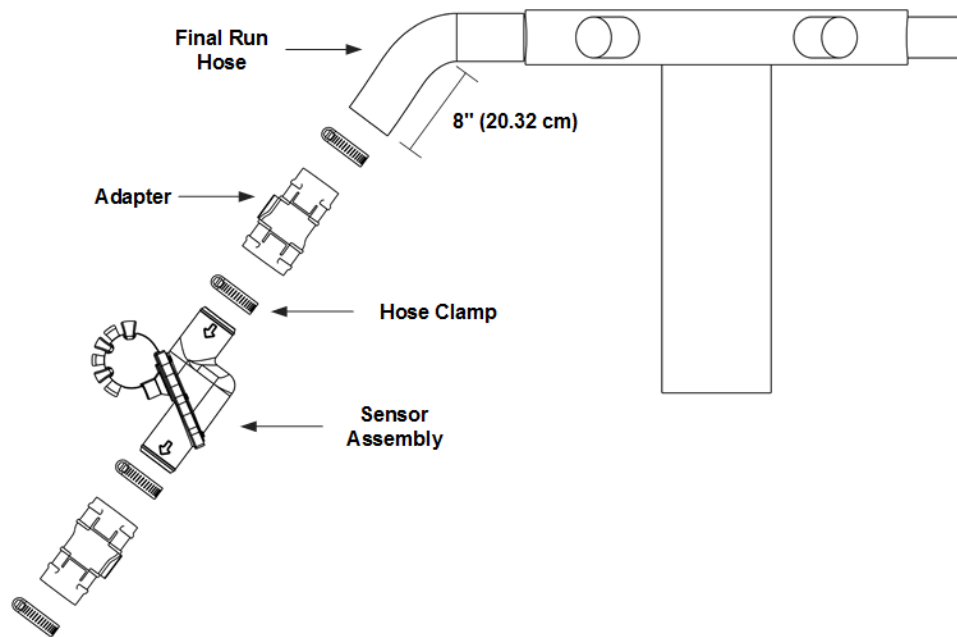

Figure 12: Installing 1.25-inch flow sensors on a manifold
2. Attach an adapter to each end of the sensor (153570-000016) as shown in Figure 12 and secure with a hose clamp (352013-000010 or 356060-000025).